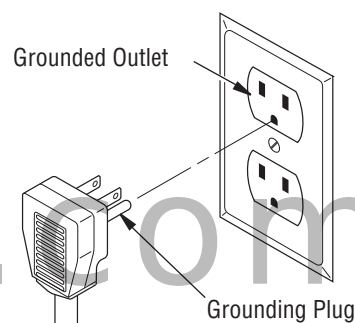

Figure 1 - Grounding Plug
- Blower accessory must be grounded. Blower comes with a three-prong, grounding plug as shown in *Figure 1*. The plug is your protection against electrical shock. Plug it into a standard, three-hole, grounded, outlet. If cord needs replacing, use only a cord with a three-prong, grounding plug.